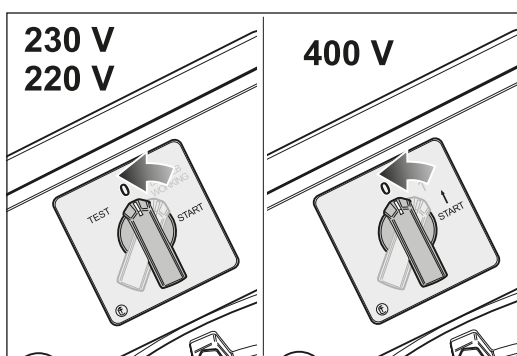

Fig. 25 To switch off the machine turn the switch button to position -0-.
- 2 Turn the switch button to position -0- (fig. 25).